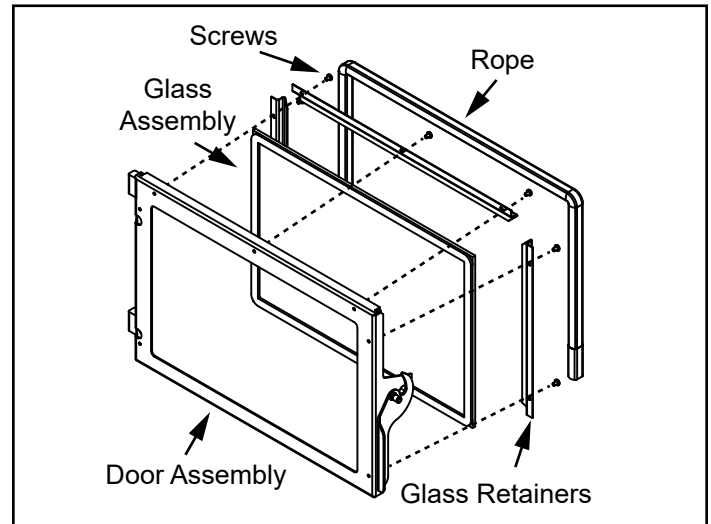

Figure 25.2
9. Add rope into crevice as shown below in **Figure 25.2**.